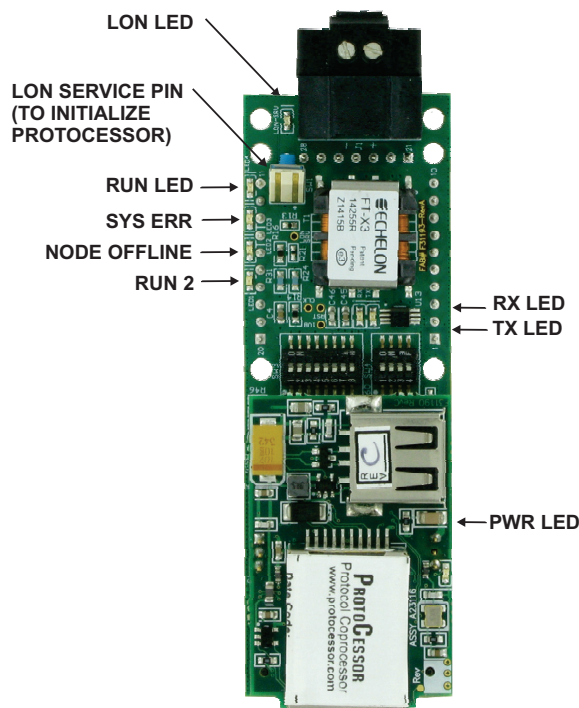

Figure 17: PT-Link II LON-3® LED Locations
Refer to **Figure 17** for LED locations.
3. Once the PT-Link is powered up, you should notice that the green RUN LED on the ProtoCessor Board is blinking continuously. See **Figure 17, page 13** for a diagram showing the location of the ProtoCessor RUN LED.